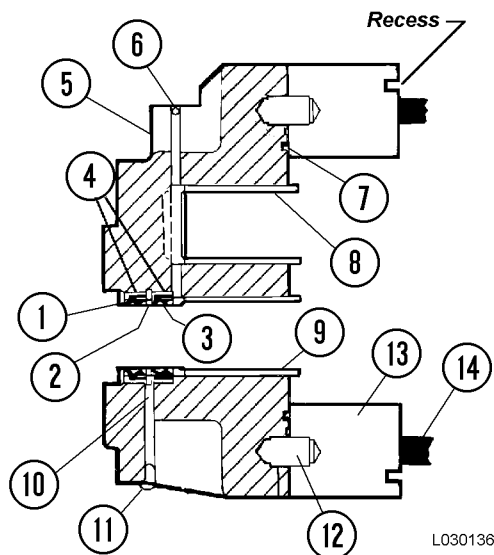

FIGURE 3-11. SHAFT SEAL INSTALLATION
3. Lubricate the seals with hydraulic oil. Position inboard shaft seal (3, Figure 3-11) with the metal face toward the outboard end of the flange.
5. Install snap ring (2, Figure 3-11) with the snap ring opening over weep hole (10).
7. Lubricate thru stud threads (14, Figure 3-11) with hydraulic oil. Thread the studs into flange until snug. There are four long studs and four short studs. Refe to Figure 3-12 for proper stud location.
8. Lubricate and install O-ring (7). Install dowel pins (12) if removed. Install gear plate (13). Make sure that the recess in the gear plate will be toward the connector plate or facing up when the gear plate is installed.